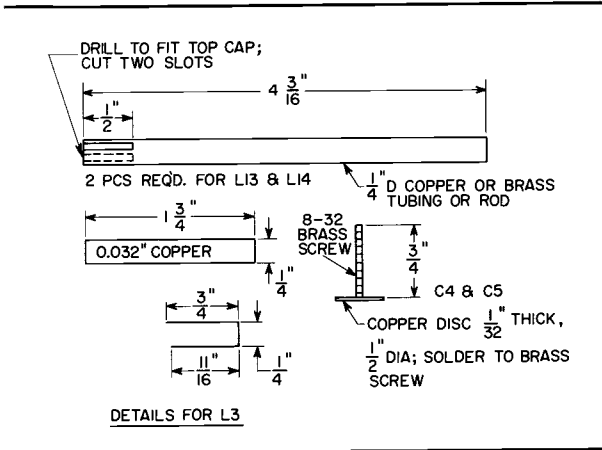

Figure 3: Detailed view of variable capacitors and inductors in rf stages.
- C4, C5—See Figure 3
- L3—See Figure 3
- L13, L14—See Figure 3
The next nuvistor triode stage doubles the frequency to 417.6 megacycles. The plate-circuit inductance ( $L_9$ ) is a short piece of copper bent into the shape of a "U." Construction details of this tank circuit and the other coil assemblies are shown in Figure 3.